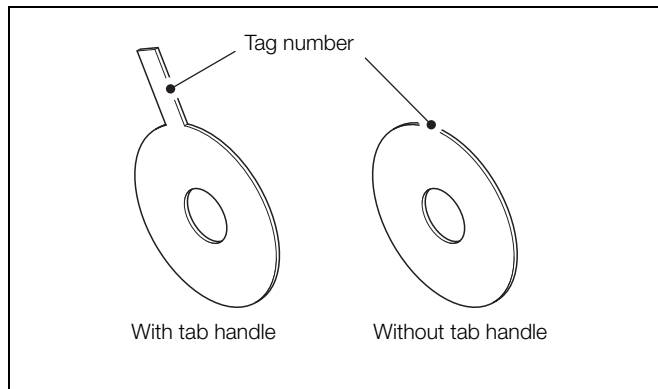

Fig. 2.1 Orifice Plates
1. Check the Tag Number of the orifice plate to ensure it is the correct unit for the location – see Fig 2.1.